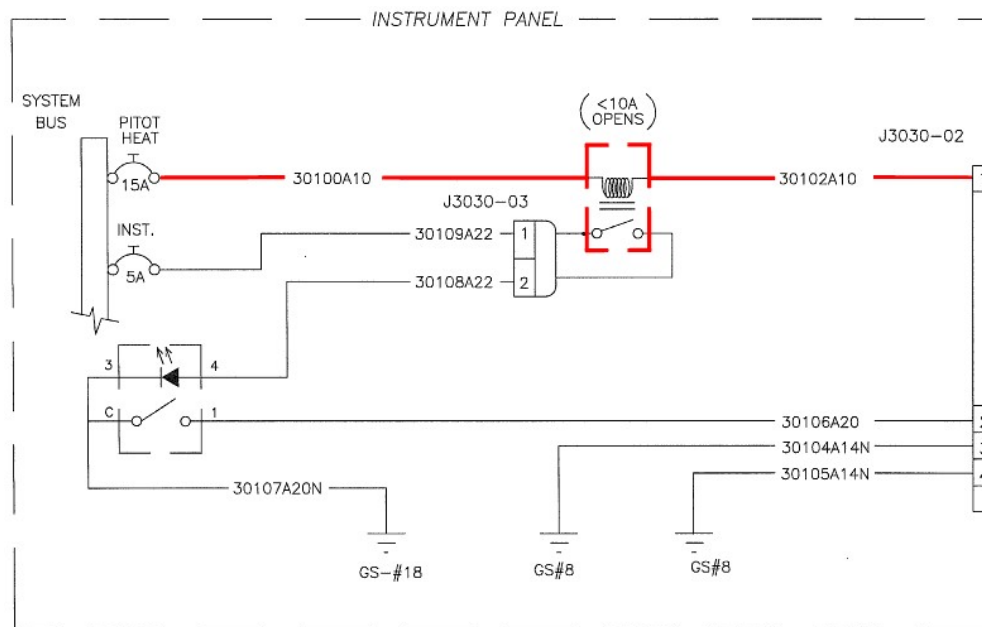

Figure 6: Instrument Panel Schematic highlighting the Current Monitor Installation
11.2.1 Follow the instructions below to install the Current Monitor (p/n: 22-3030-02-00), as shown in Figure 6.